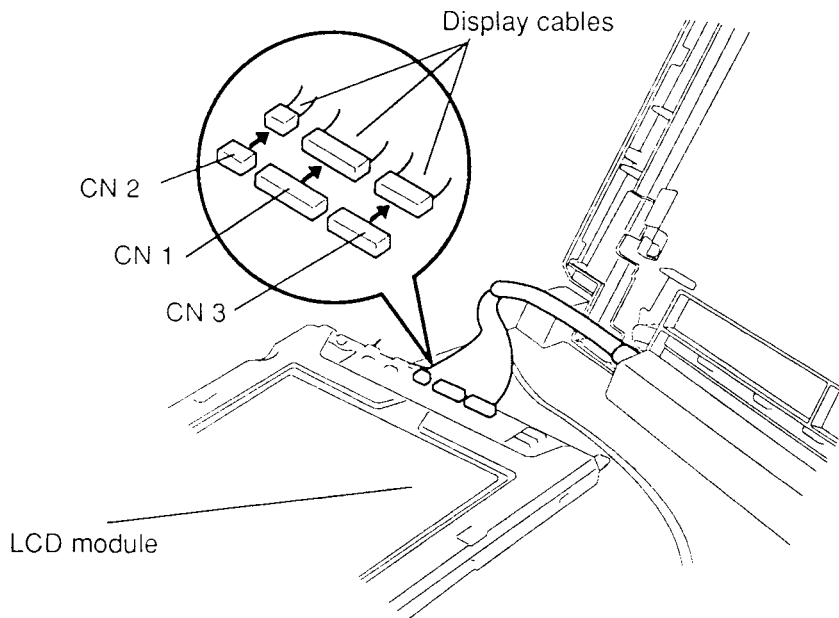

Figure 4-39 Disconnecting the Display Cables
6. Disconnect the **three display cables** from **CN 1, CN 2, and CN 3** on the **LCD module** (Figure 4-39).
1. Place the **LCD module** face down on the front of the T6600C and connect the **three display cables** to **CN 1, CN 2, and CN 3** on the **LCD module** (Figure 4-39).